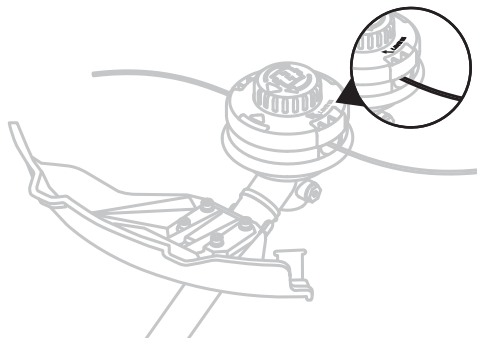

Fig. 1B
2. Insert the cutting line into the eyelet that is marked "LINE IN" on the spool (Fig. 1B).